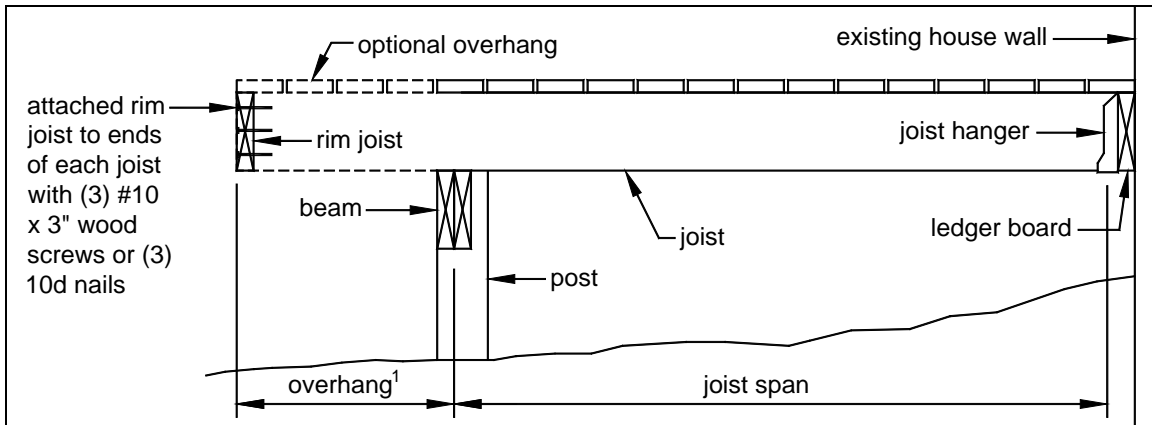
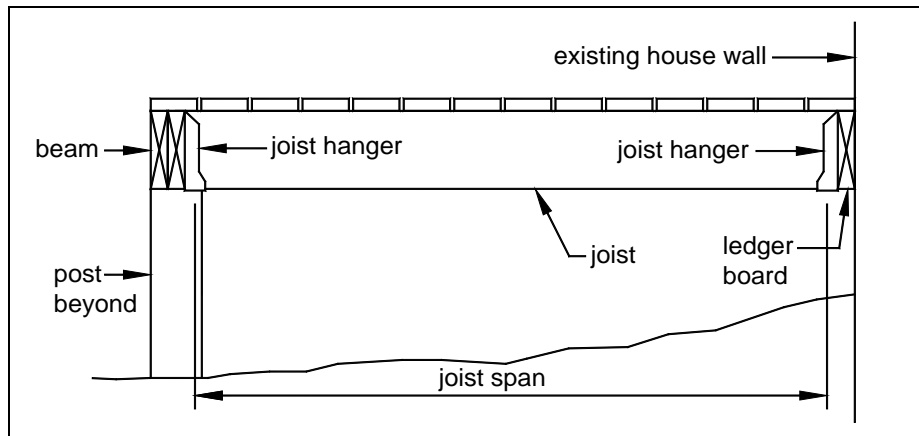
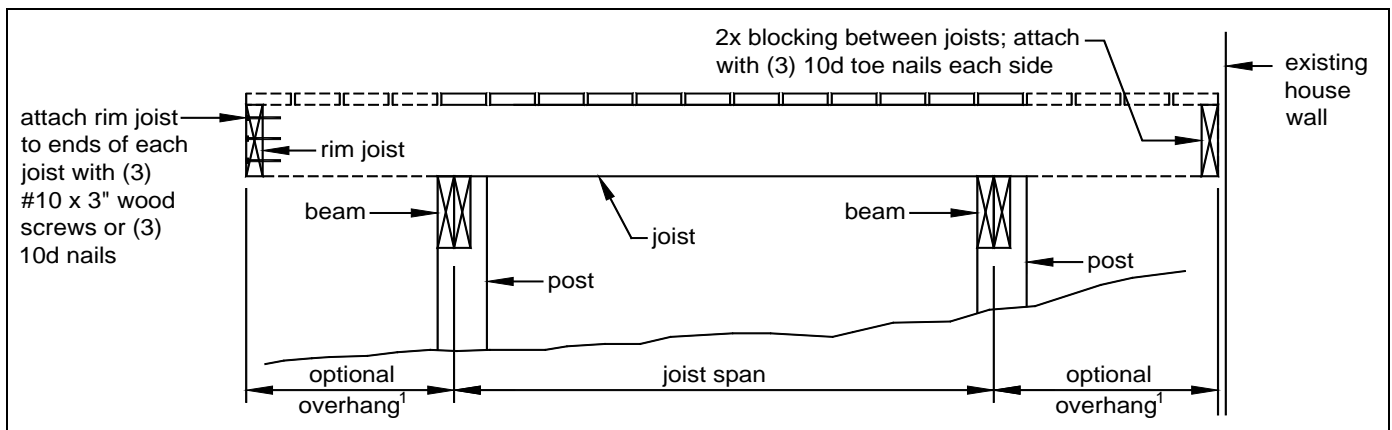
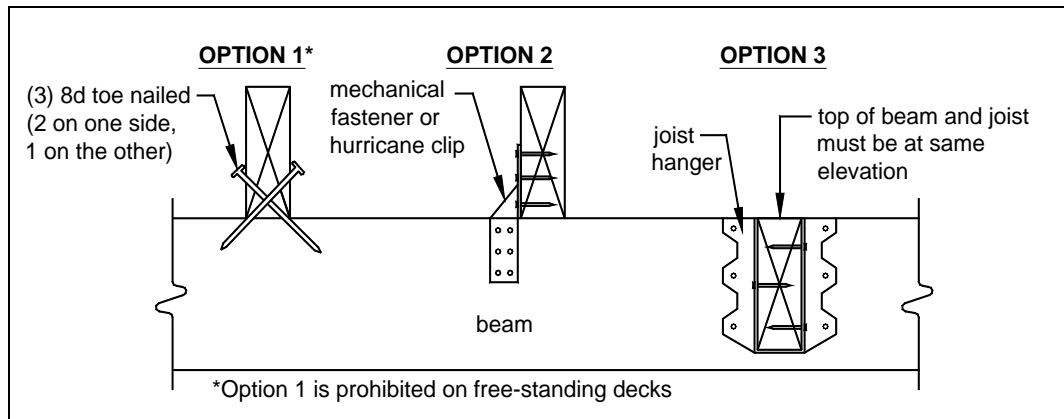

FIGURE 2: JOIST SPAN WITH OVERHANG - DECK ATTACHED AT HOUSE
FIGURE 3: JOIST SPAN - JOISTS ATTACHED TO SIDE OF BEAM
FIGURE 4: JOIST SPAN - FREE-STANDING DECK²
FIGURE 8: JOIST-TO-BEAM DETAIL
- See FIGURE 2 through FIGURE 4 for joist span types.
- Attach rim joist to end of joists as shown in FIGURE 2 and FIGURE 4.
Each joist shall be attached to the beam as shown in FIGURE 8. Use Option 1 or Option 2 when joists bear on or overhang past the beam as shown in FIGURE 2 and FIGURE 4. Use Option 3 when joists attach to the side of the beam as shown in FIGURE 3; however, the joist depth must be less than or equal in depth to the beam depth. See *Joist Hangers* below for information on hanger requirements. Mechanical fasteners or hurricane clips used in Option 2 shall have a minimum capacity of 100 lbs. in both uplift and lateral load directions. See manufacturer's instructions for minimum installation requirements.